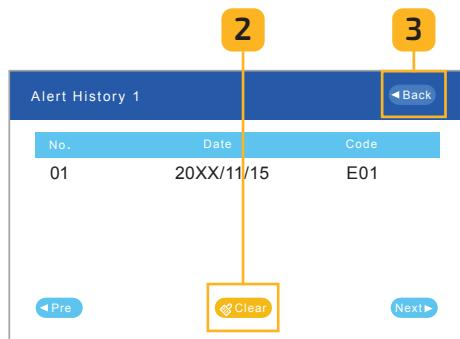

Fig. 6.34 Alert history screen
2. Click the **Clear** button to clear alert history (Fig. 6.34).